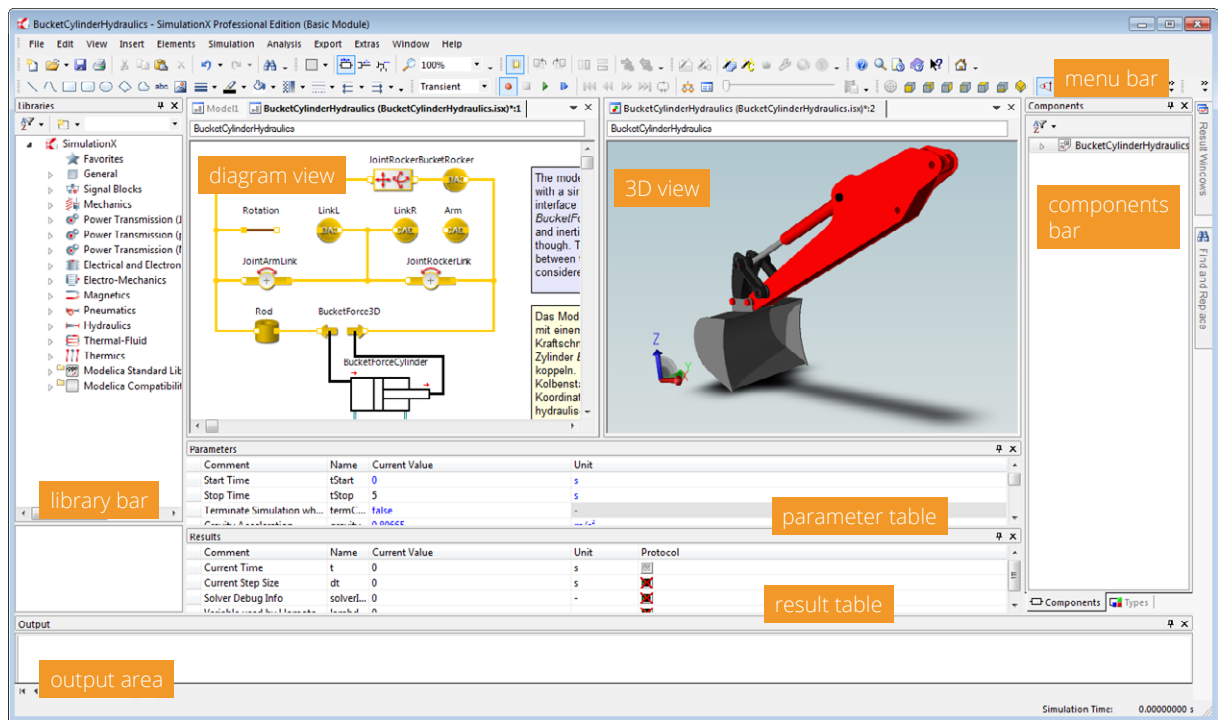

Fig. 2: Default GUI of SimulationX Professional Edition with a model (Bucket Cylinder Hydraulics) from the SimulationX *Sample Browser*
**Parameter table, result table and the components bar:** Contains the properties of your model and the results displayed. (In order to have values displayed in the parameters and result tables as shown in figure 2, click  on an element in the diagram view).